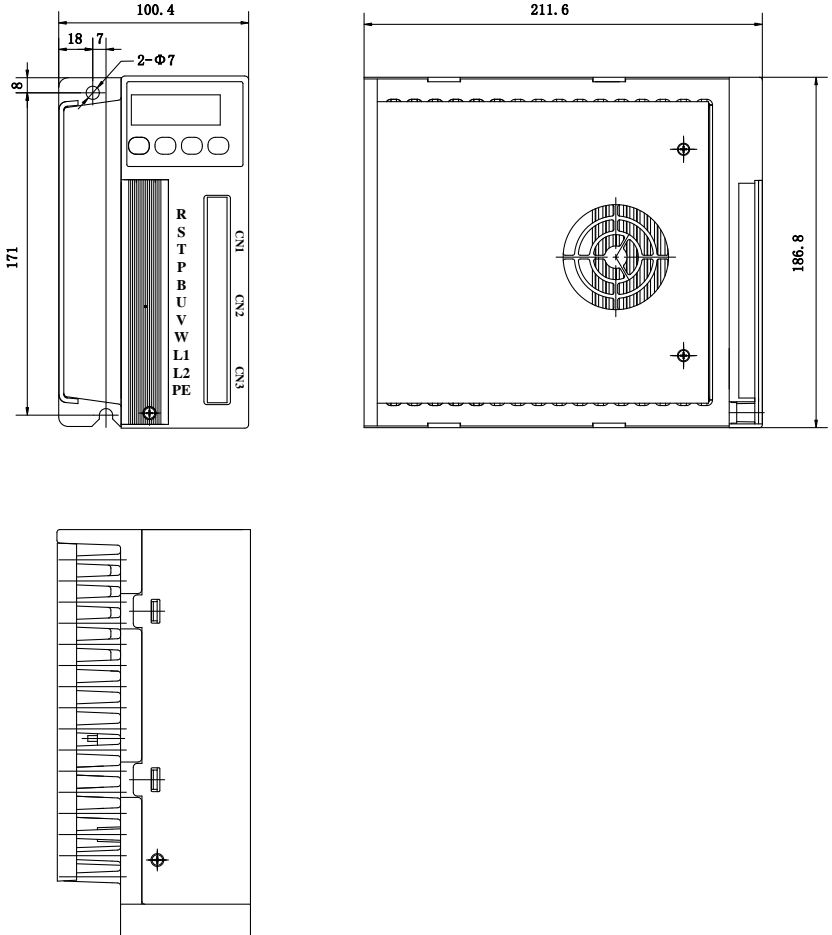

Fig. 1-2 EPS1—300 servo motor driver dimensions (Unit: mm)
- EPS1-300 servo motor driver dimension is shown in Fig.1-2.